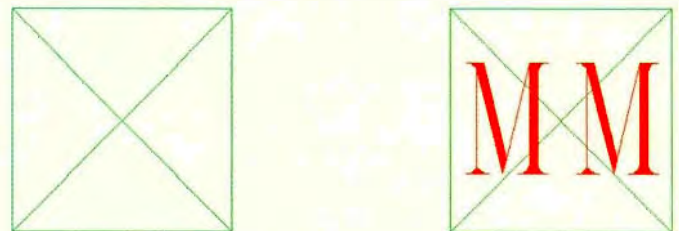

Figure 1
1. Create the appropriate geometry in CADKEY. See Figure 1.